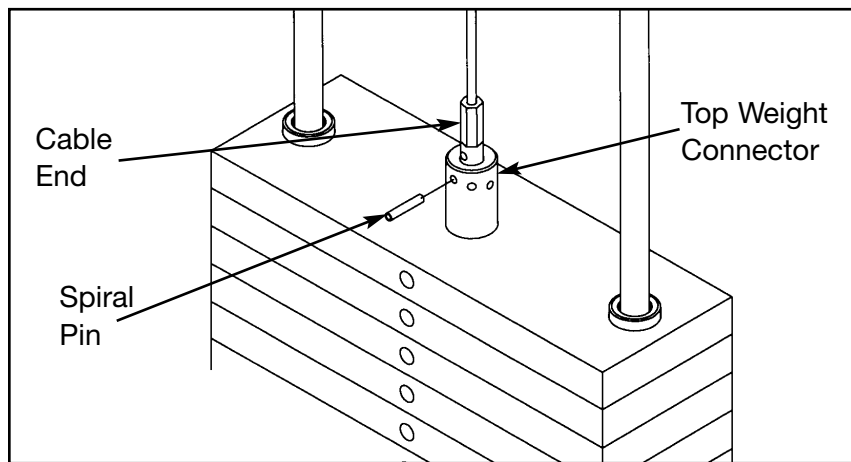

Figure 1
- A.** Slide protective rubber cover up cable to expose cable/plate junction. Note spiral pin location in cable fitting. See Figure 1.